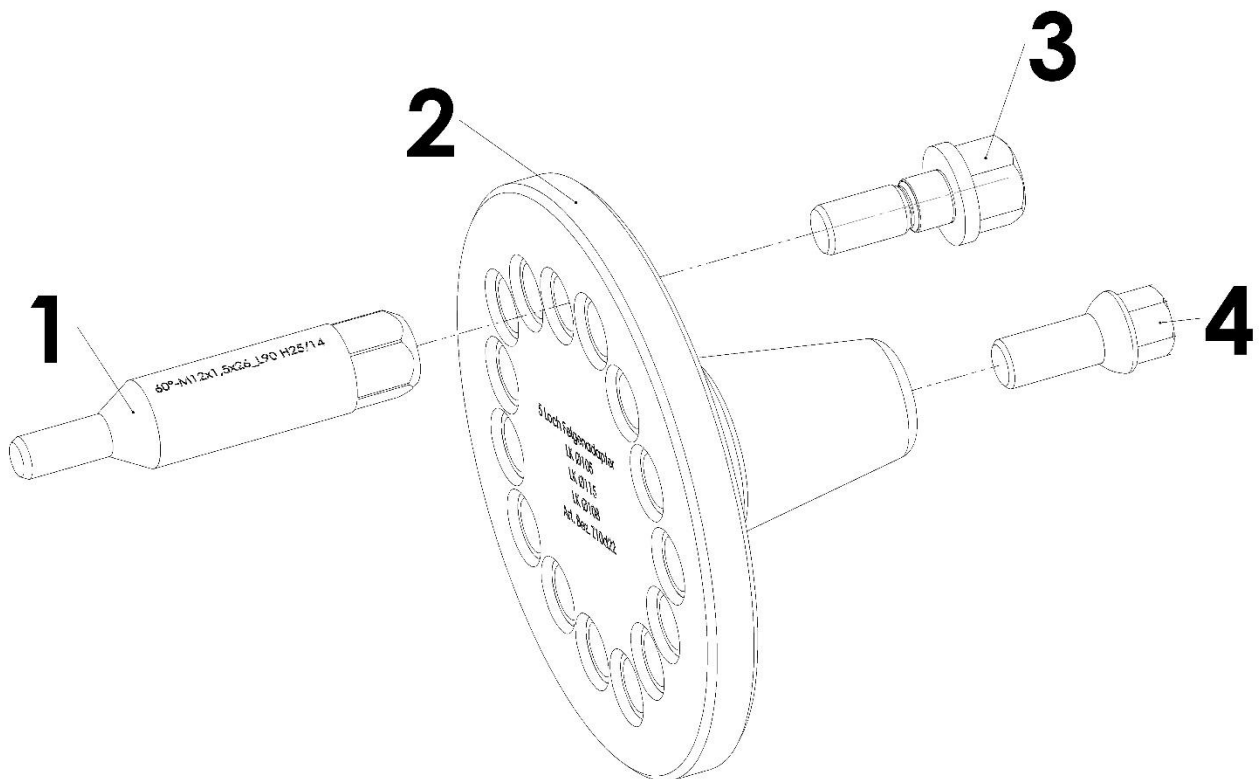

Figure 23: Wheel rim adapter
4. Insert the connecting screws [3] with washers [2] through the wheel rim adapter into the thread adapters [1], (see Figure 23) and tighten with 120Nm.